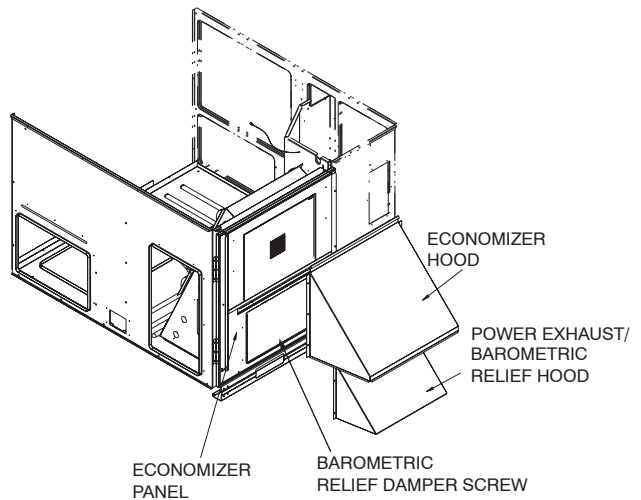

Fig. 20 – Hood Installation (48PG08-14)
3. The barometric relief damper is secured to the economizer panel for shipping. Remove the screw holding the barometric relief damper to the economizer panel. Damper should be free to swing open during operation. (See Fig. 20 and 21.) On size 16 units, repeat for second hood.
4. Hang the barometric relief/power exhaust hood on the mounting flange on the economizer panel. Secure hood to panel with screws saved from Step 2. See Fig. 20 - 22. On size 16 units, repeat for second hood.
5. Align hole in flange of economizer panel with left edge of hood. Hang economizer hood on the top flange of the economizer panel by rotating hood until top flange of the economizer hood engages the bent flange on the economizer panel. Rotate hood until hood is flush with the economizer panel. Hood will support itself from flange. Align holes in hood with holes in panel and secure hood to panel with screws saved from Step 2. (See Fig. 20, 21, and 23.)